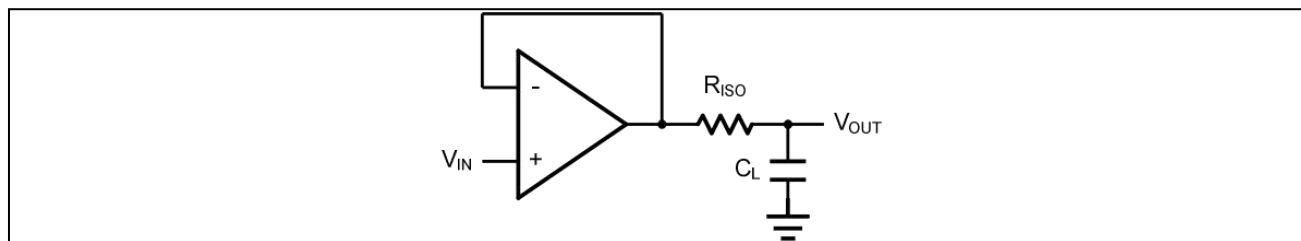
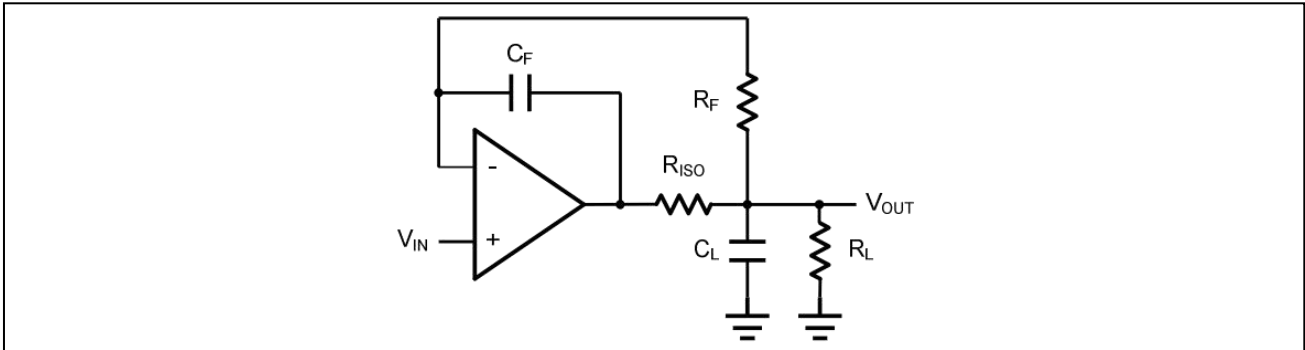

Figure 2. Indirectly Driving a Capacitive Load Using Isolation Resistor
Figure 3. Indirectly Driving a Capacitive Load with DC Accuracy
The OPAx340 family is optimized for bandwidth and speed, not for driving capacitive loads. Output capacitance will create a pole in the amplifier's feedback path, leading to excessive peaking and potential oscillation. If dealing with load capacitance is a requirement of the application, the two strategies to consider are (1) using a small resistor in series with the amplifier's output and the load capacitance and (2) reducing the bandwidth of the amplifier's feedback loop by increasing the overall noise gain. Figure 2. shows a unity gain follower using the series resistor strategy. The resistor isolates the output from the capacitance and, more importantly, creates a zero in the feedback path that compensates for the pole created by the output capacitance.
The circuit in Figure 3 is an improvement to the one in Figure 2. RF provides the DC accuracy by feed-forward the VIN to RL. CF and RISO serve to counteract the loss of phase margin by feeding the high frequency component of the output signal back to the amplifier's inverting input, thereby preserving the phase margin in the overall feedback loop. Capacitive drive can be increased by increasing the value of CF. This in turn will slow down the pulse response.